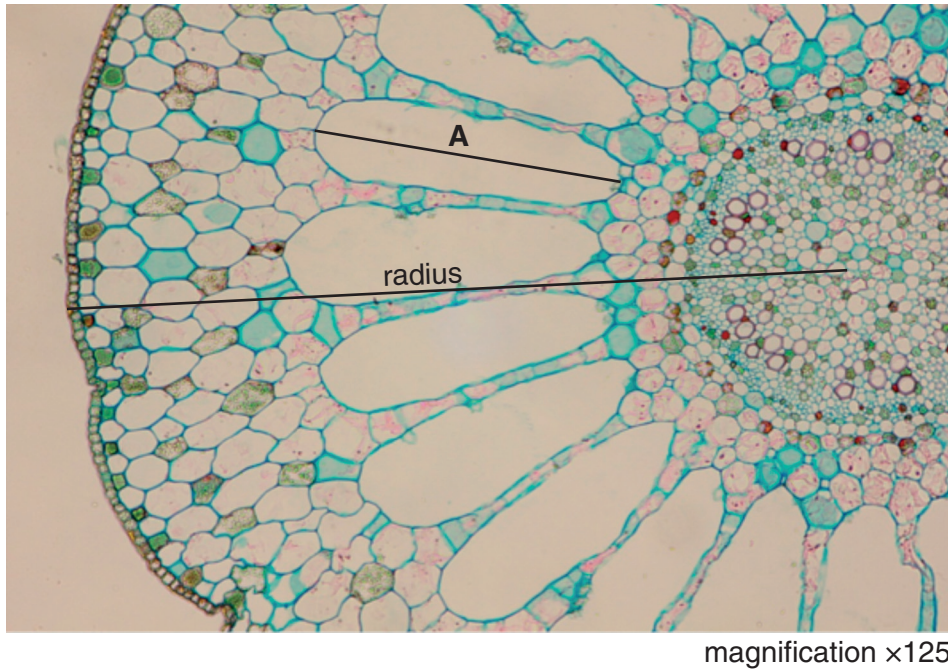

Fig. 2.1
(b) Fig. 2.1 is a photomicrograph of a stained transverse section of a stem of a different plant species.
(i) Calculate the **actual** length of the line **A** shown on Fig. 2.1.
- (ii) A student observed a different plant of the same species shown in Fig. 2.1. The student determined the ratio of the radius of the stem to the length of one air space as 266:82.
The actual radius of the stem in Fig. 2.1 is 825 μm .
Determine the simplest ratio of the radius of the stem in Fig. 2.1 to the length of an air space (line **A**).
- (iii) Suggest a habitat where this plant might grow and one observable feature shown in Fig. 2.1, which enables it to live in this habitat.
- (c) Prepare the space below so that it is suitable for you to record observable differences between the specimen on **K1** and Fig. 2.1.